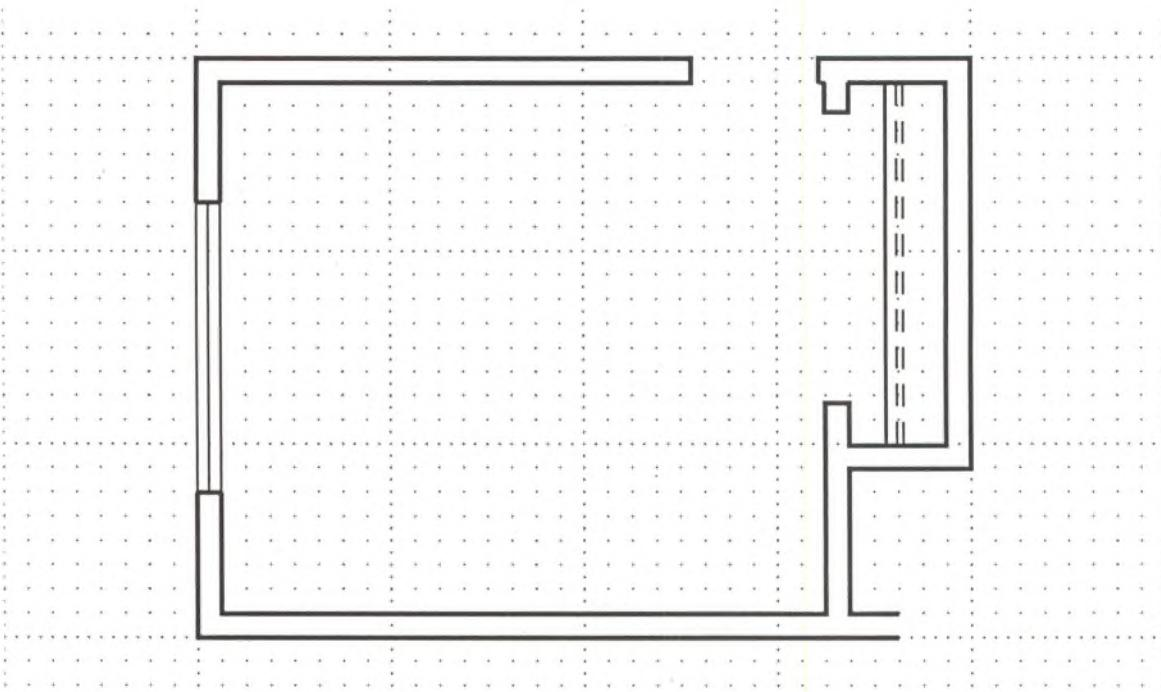

Fig. 5.4 The same room plan with wall lines darkened.
8. The lines that indicate walls are the heaviest lines on the drawing. When you are satisfied that you have them drawn correctly, trace over them with a firm pressure on a 2H grade lead. Compare your drawing with Fig. 5.4. Turn the paper over.
5. Go over the wall lines with an 2H lead or with more pressure on your pencil as shown in Fig. 5.4.